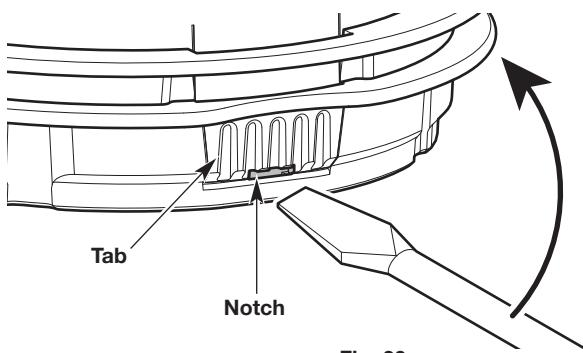

Fig. 30
- a. Insert a flat-head screwdriver into the notch on the tab (Fig. 30).
- b. Gently tilt the screwdriver up and hold it in place (Fig. 30).